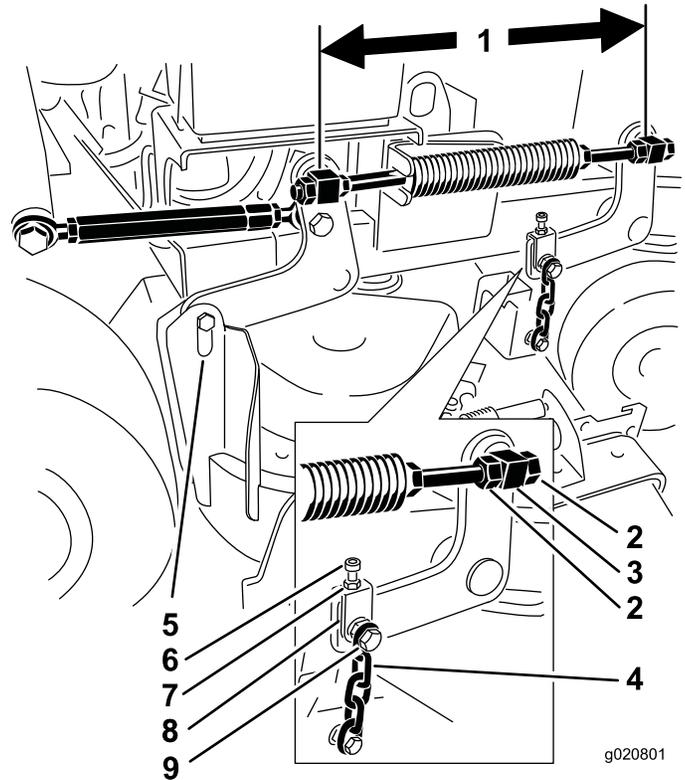

Figure 82
6. Check the distance between the swivels, measure at the center of the swivels (center-to-center length) on each threaded rod. Ensure the length is 49.5 cm (19-1/2 inches) for 91 cm (36 inch) mower decks and 43.7 cm (17-3/16 inches) for 102 cm (40 inch) mower decks (Figure 82).
11. If adjustment is needed, loosen the upper chain bolt (Figure 82).
6. Loosen the upper chain bolts (Figure 82).